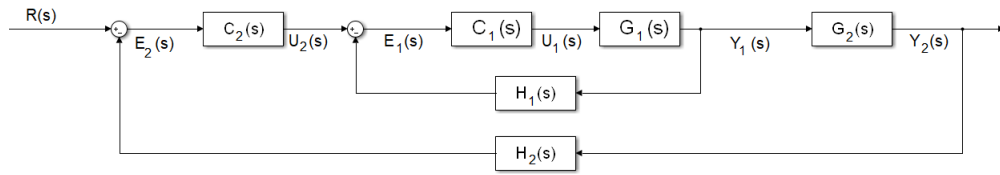

Figure 9.18: Cascade (or master-slave) control.
4. Figure 9.18 shows a variation of closed-loop control called cascade control (or master–slave control, though that designation is out of favour nowadays). In that block diagram, the plant to control is  $G(s) = G_1(s)G_2(s)$ , and it possible to measure both  $Y_1(s)$  and  $Y_2(s)$ . Each of the two parts of the system to control is controlled separately.